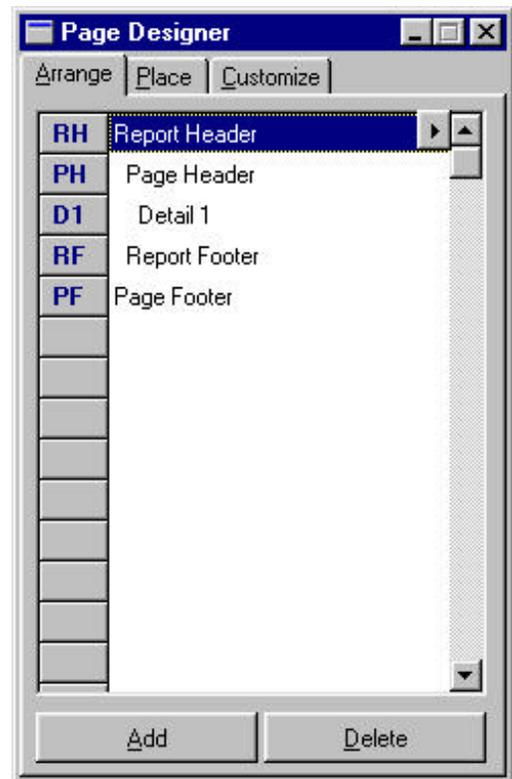

Figure 13.
Step 1: Select the Page Designer icon on the tool bar. The Page Designer window will appear. (see Figure 13.)